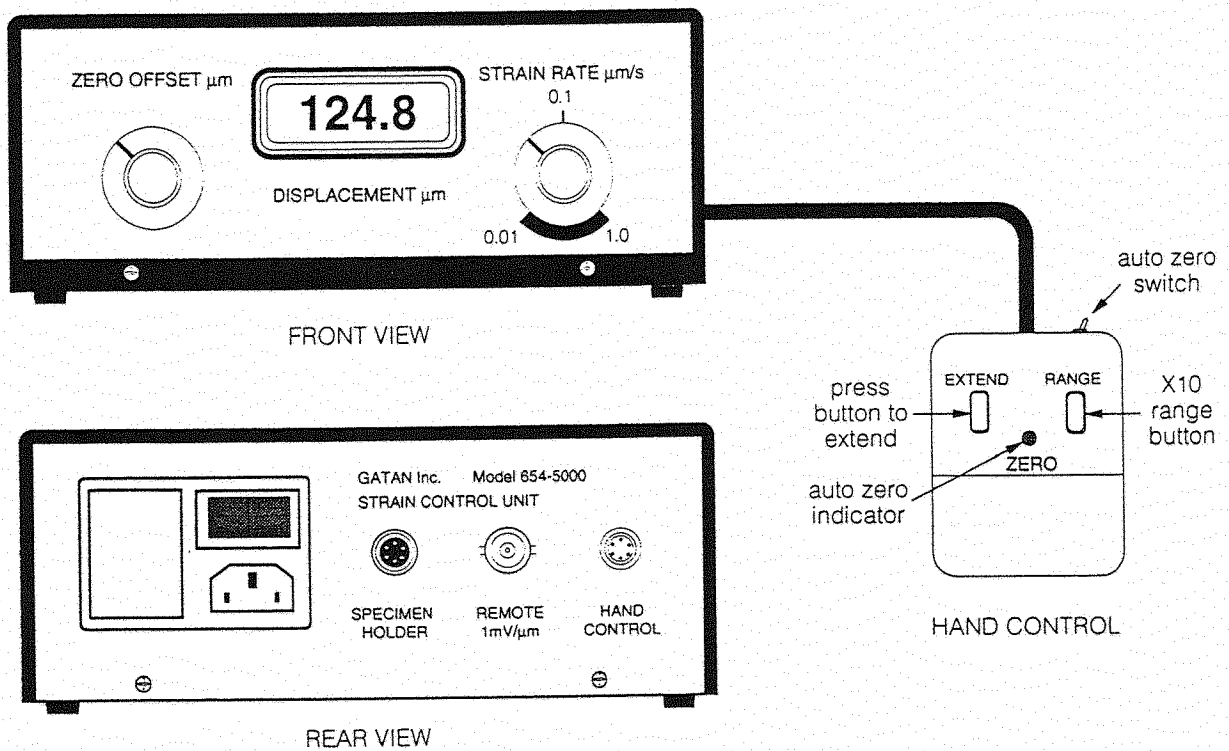

Figure 3. Strain control unit with hand control
4. Strain control unit and hand control (see figures 3 and 4)
If the holder is to be operated above 500°C the water recirculator must be connected. The recirculator plugs into the Model 901 SmartSet controller and operates automatically when the holder temperature reaches 500°C. See the separate Model 901 instruction manual for operating the pump at temperatures lower than 500°C. The pump is connected to a stainless steel tank filled with 2.5 liters of distilled water at ambient room temperature. There are two main advantages to using the recirculator 1.) the elimination of a source of vibration due to fluctuations in pressure of water lines; 2.) the elimination of a source of drift due to sudden changes in water temperature. The recirculator is fully self contained and measures 17.5cm high x 17.5cm wide x 46cm long. It is supplied with two lengths of polyurethane tubing, each one 260cm long. The length and diameter of the tubing should not be changed or the performance will be greatly affected. The tubing is fitted with nylon compression fittings that attach to the specimen holder fittings. These nylon compression fittings need only be tightened by hand (DO NOT USE A WRENCH). FLOW DIRECTION IS IMPORTANT. Please see figure 3 for the proper connection of the water lines to the holder. The pump and the tubing runs were optimized to permit sufficient cooling of the holder to a maximum height of 200cm above the pump. The flow rate will remain fairly constant (75ml/min) over this range. A detachable cover with gasket is fitted to the tank to prevent spillage should the recirculator be accidentally tipped over. The cover thumbscrews